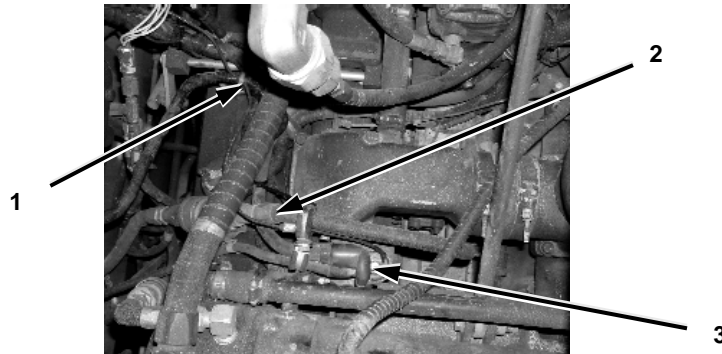

**Figure 2-14. MCU Power Lead Routing from Driver's Compartment to Engine Terminal.**
Step 4 below applies to Figure 2-14.
4. Route the MCU Power Lead (12491611-2) (2) along the existing wire harness (3). Use 5 or 6 Electrical Tie Straps (MS 3367-2-0) (4) to connect the MCU Power Lead (12491611-2) (2) to the existing Wiring Harness (3) on the front and right outside of the driver's compartment. Connect the MCU Power Lead (12491611-2) (2) end to the end of the MCU Power Lead (12491611-1) (1) on the right outside of the driver's compartment inside the engine compartment.